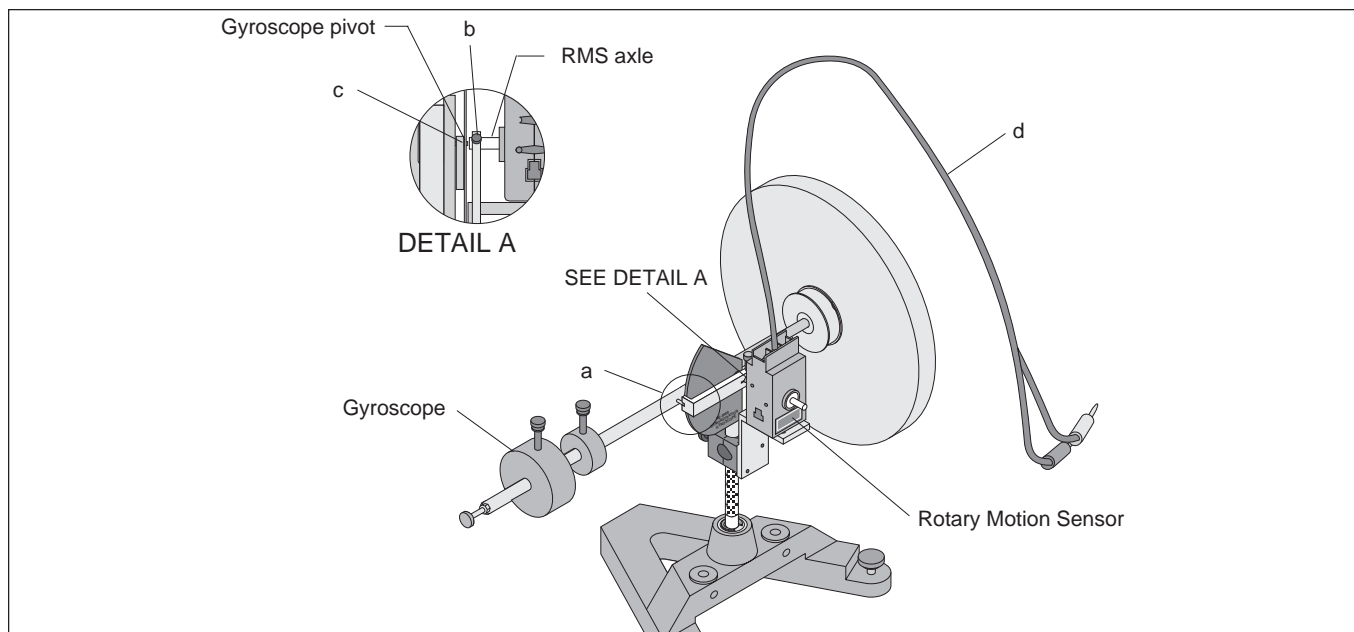

Figure 3
- ⑦ Fit the prongs of the slotted guide arm around the end of the small rod projecting from the gyroscope axle [Figure 3 (a)]. Tighten the bolt on the slotted guide arm [Figure 3 (b)].
- ⑧ If necessary, make fine adjustments to the position of the bracket to insure that the axle of the RMS is centered on the pivot of the gyroscope axle [Figure 3 (c)].
NOTE: Hold the cord of the RMS up out of the way during operation and data acquisition [Figure 3 (d)]. After several rotations of the Gyroscope, the cord will develop a torque that may affect the Gyroscope’s motion; it will be necessary to untwist the cord before continuing.